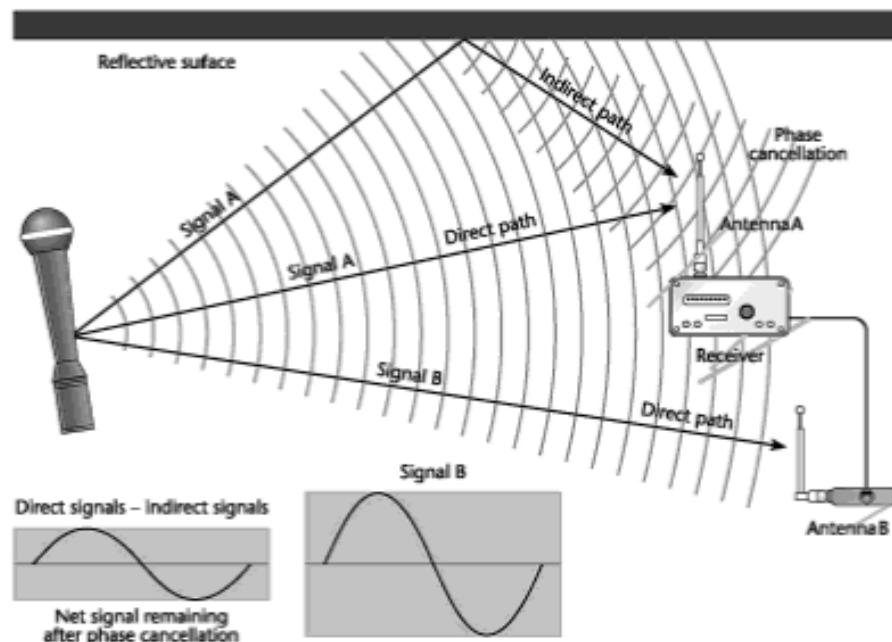

Figure 6-33 Diversity reception.
- **Diversity reception**—A wireless microphone system transmits radio waves from a transmitter, through the air, to a receiver. Because the waves are transmitted line-of-sight, there is the danger that the radio waves will encounter obstructions en route to the receiver. Another potential hindrance to signal reception could result if the transmitter is out of range. The problem with multipath reception may be a third difficulty. Any of these problems creates a dropout or null in the transmission. *Dropout* is a momentary loss of the signal at the receiver. The technique used to deal with dropout is known as *diversity reception*. Basically, diversity reception ensures that the receiver can satisfactorily process an impeded signal from the transmitter (see Figure 6-33).